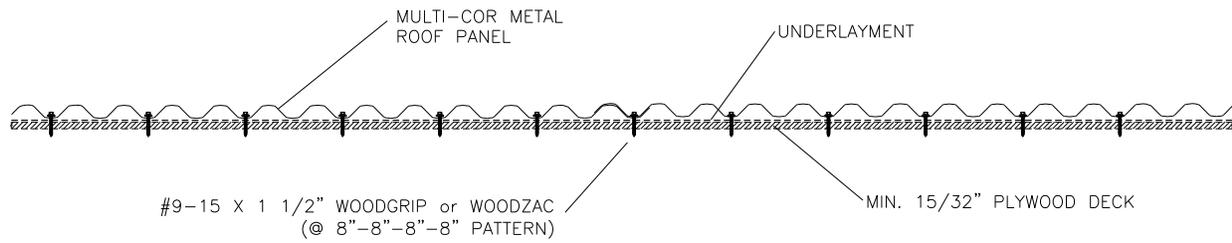

Figure 1. Multi-Cor Panel Detail (Minimum 26 Gauge)
**Panels:** The Multi-Cor metal roofing panels must be secured to the roof deck as specified in Table 1 and in accordance with this section. Refer to Figure 1 for an illustration of the required fastener pattern.
**Roofing Panels:** Minimum 9-15 x 1-1/2" long, Woodgrip screws or WoodZAC screws, with a sealing washer. The fasteners must be long enough to ensure a minimum penetration of 1/4" below the roof deck. (Note: If the metal roofing panels are installed over an existing roof covering, then the fastener length must be increased so that the fasteners are long enough to ensure a minimum penetration of 1/4" below the existing plywood roof decking.) A line of fasteners are to be installed beginning 2" from the center line of the first major side lap in a 8"-8"-8"-8" pattern as specified in Table 1. The spacing of the line of fasteners along the length of the panel must be 12" on center as specified in Table 1. Refer to Figure 1 of this evaluation report.